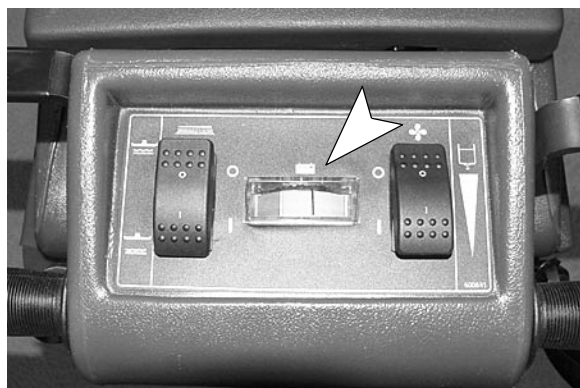

FIG. 16
- Periodically check battery meter's discharge level. When needle drops to the red zone, recharge batteries (Figure 16).